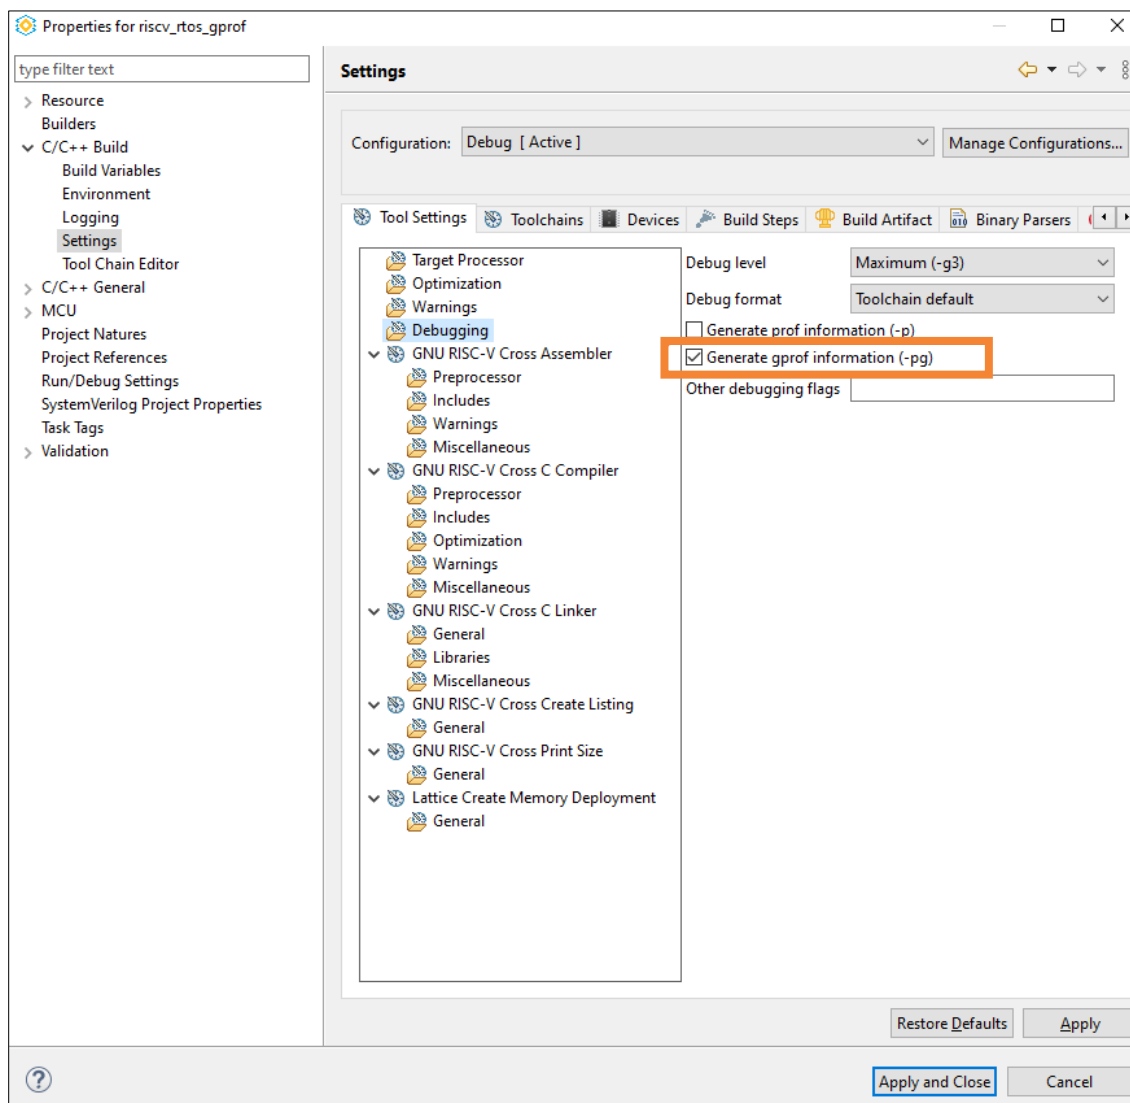

Figure 5.31. Generate gprof Information Checkbox
3. Select **Debugging**. Enable the **Generate gprof information** checkbox (Figure 5.31).